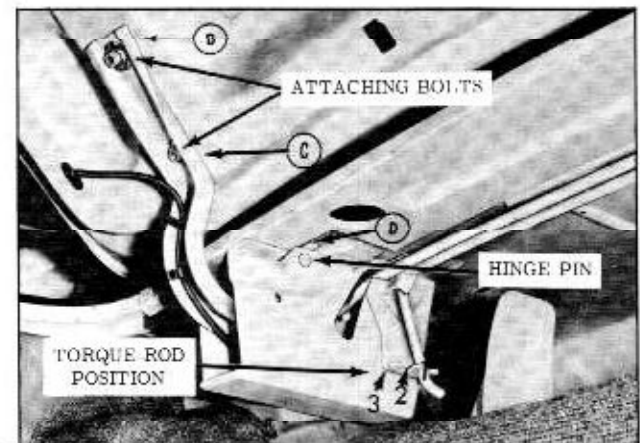

Fig. 17-88 Rear Compartment Hinge and Torque Rod
4. With aid of helper remove lid attaching bolts "A" and remove lid. (Fig. 17-88)
- a. To raise front edge of lid at hinge area, place shim between lid inner panel and forward portion of one or both hinge straps at "C". (Fig. 17-88)
- b. To lower front edge of lid at hinge area, place shim between lid inner panel and rearward portion of one or both hinge straps at "B". (Fig. 17-88)
4. With a suitable tool disengage torque rod from notched retainer on inboard face of opposite hinge box "E". (Fig. 17-88)
6. Bend up hinge pin retaining tab on inboard face of hinge box "D"; remove hinge pin and then remove hinge from box. (Fig. 17-88)
The amount of effort required to open and close the rear compartment lid is determined by the position of the torque rods in the notches on the inboard face of the hinge boxes. If the torque rod is located in position 1, the amount of effort required to open the lid is the greatest and the amount of effort required to close the lid is the least. If the torque rod is located in position 3, the amount of effort to open the lid is the least and the amount of effort to close the lid is the greatest. ("E", Fig. 17-88)